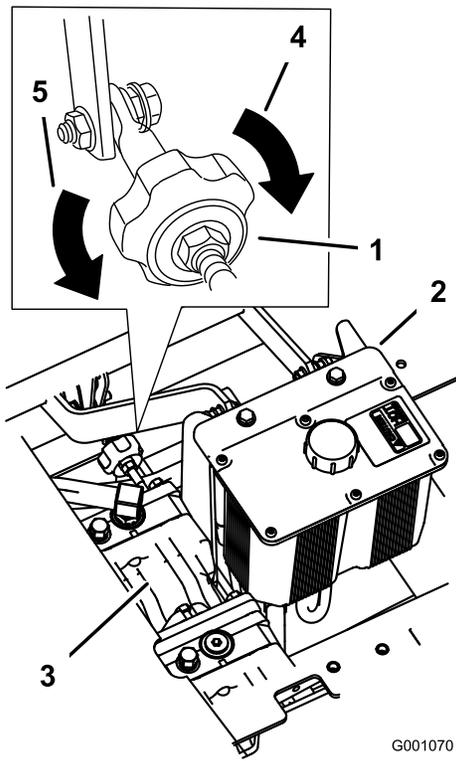

Figure 47
4. To make the machine go right, turn the knob towards the rightside of the machine. Refer to Figure 47.
5. To make the machine go left, turn the knob towards the leftside of the machine. Refer to Figure 47.